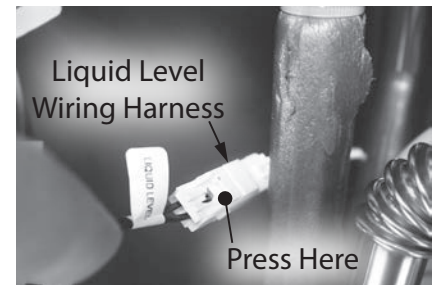

Figure 197 - Liquid level wiring harness location
**10** Trace the black wires from the condensate trap to the wiring harness labeled "Liquid Level." Disconnect the wires. See Figure 197.